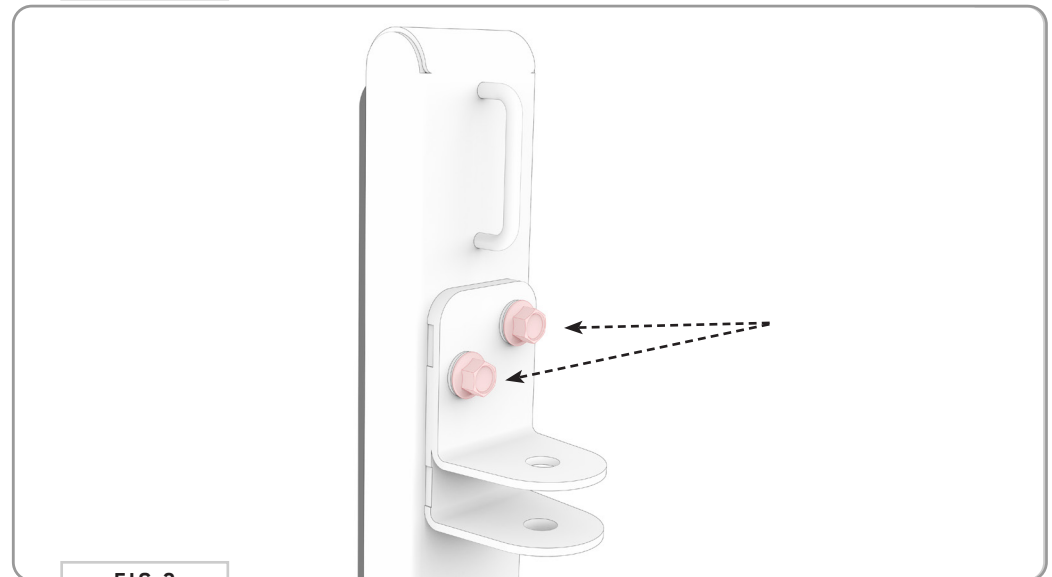

FIG 2
**1.2 Loosen Top Brackets:** Using a 3/8" Wrench, loosen the screws on the top brackets (**FIG 2**). Do not remove them entirely, just loosen them enough for adjustment in the next step.